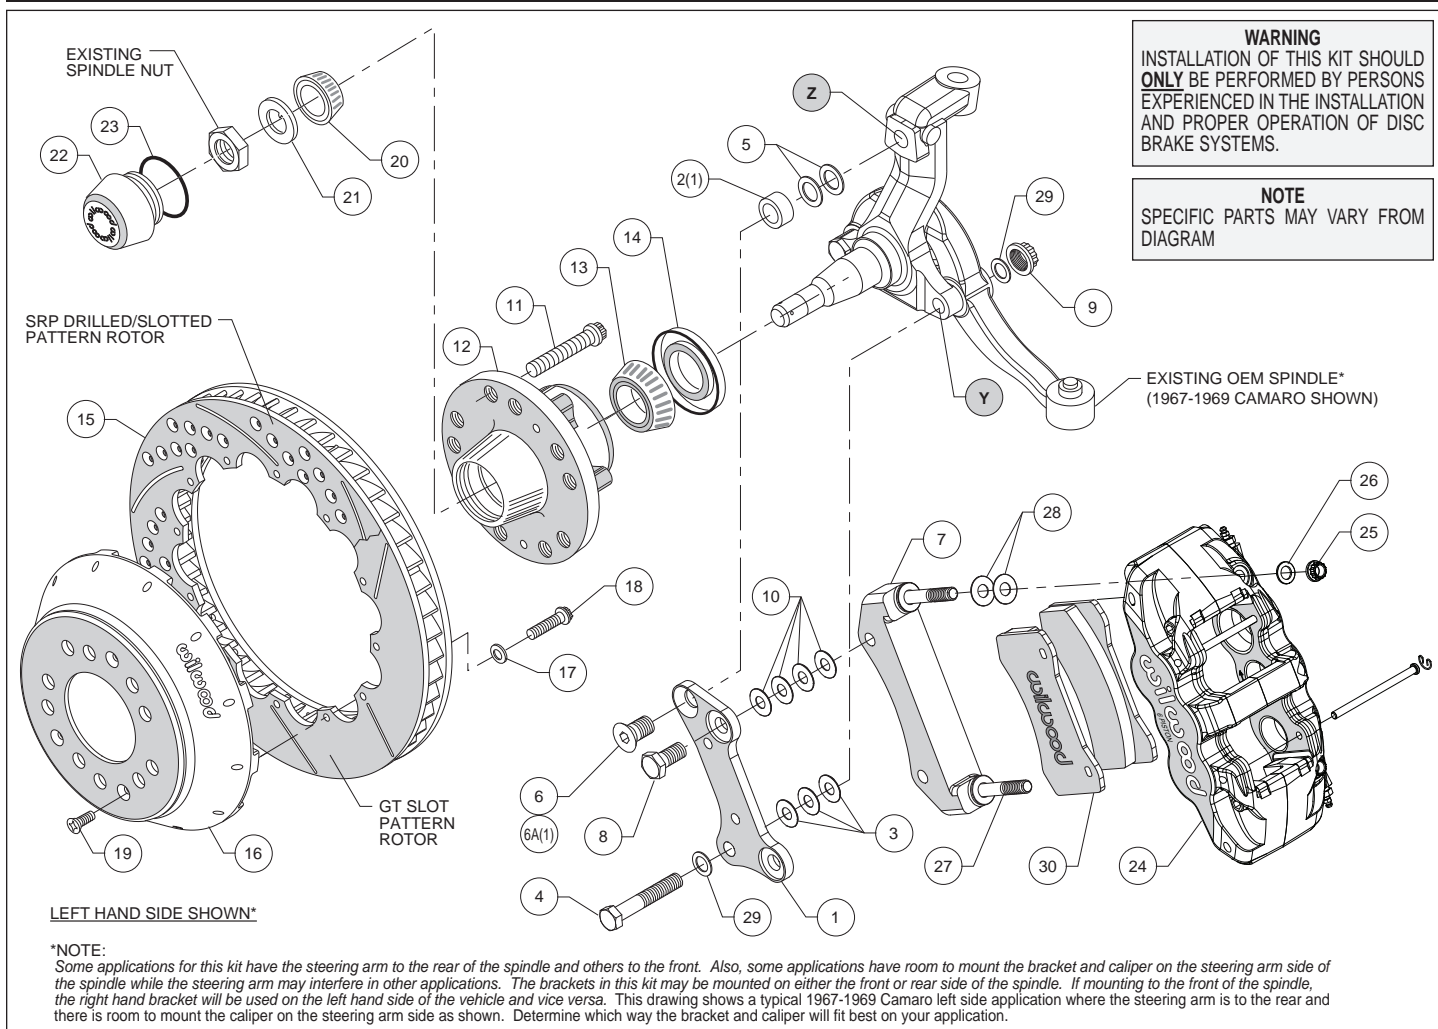
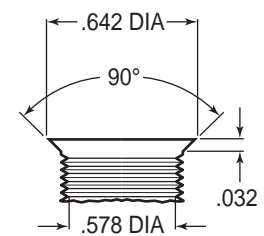
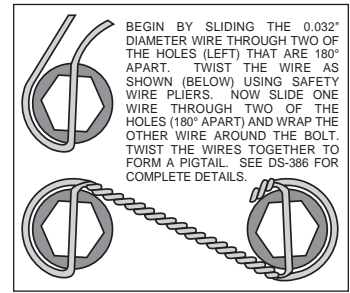

Figure 1. Typical Installation Configuration
Figure 3. Drill and Tap Detail
Figure 4. Safety Wire Diagram
Assembly Instructions (numbers in parenthesis refer to the parts list, and Figure 1 on the preceding pages):
- NOTE:** Some applications for this kit have the steering arm to the rear of the spindle and others to the front. Also, some applications have room to mount the bracket and caliper on the steering arm side of the spindle while the steering arm may interfere in other applications. The brackets in this kit may be mounted on either the front or rear side of the spindle. If mounting to the front of the spindle, the right hand bracket will be used on the left hand side of the vehicle and vice versa. Figure 1 shows a typical 1967-1969 Camaro left side application where the steering arm is to the rear and there is room to mount the caliper on the steering arm side as shown. Determine which way the bracket and caliper will fit best on your application.
- NOTE:** Some spindles in this year range may require the following modifications (reference Figure 1 and Figure 3): Top anchor pin hole (Z) must be drilled and tapped to the dimensions as outlined in Figure 3. The lower bolt hole (Y) in the spindle used to mount the new caliper bracket, and the mating steering arm hole, must be enlarged to .50" by drilling. It is recommended these modifications be performed by a qualified machinist.
- Install wheel studs (11) into the hub (12), Figure 1 and Photo 1. Torque to 77 ft-lb. **NOTE:** There are two five lug patterns in the hub (5 x 4.50 and 5 x 4.75). Ensure the correct hub stud pattern is being used to fit the wheel application.
- Pack the large inner bearing cone (13) with high temperature disc brake bearing grease (available from your local auto parts store) and install into the backside of the hub (12), Photo 2.
- Install the grease seal (14) by pressing into the backside of the hub (12), flush with the end of the hub, Photo 2.
- Orient the rotor (15) and the hat (16) as shown in Figure 1 and Photo 3. Attach rotor to hat using bolts (18) and washers (17). Using an alternating sequence, apply red *Loctite*® 271 to the threads, and torque to 155 **in-lbs**. For an added measure of security, the bolts may be safety wired using standard 0.032 inch diameter stainless steel safety wire as shown in Figure 4. Please refer to Wilwood's data sheet DS-386 for complete safety wire installation instructions.
- Disc Brake Spindle Application Only:** Follow the instructions below, but instead use bolt (6A), spacer (2), and two .050" thick washers (5) in the upper bolt hole location, Figure 1.
- Orient the flat bracket (1) as shown in Figure 1 and Photo 4, and install using bottom bolt (4), washers (29), and nut (9), Figure 1. Initially place three .032" thick shims (3) between the bracket and spindle. Install the upper bolt (6 or 6A), Photo 5. Temporarily tighten bolts. **NOTE:** *The bracket must fit squarely against the mounting surfaces on the spindle.* Inspect for interference from casting irregularities, machining ridges, burrs, etc. Temporarily install the hub and hat/rotor assembly. Check that the bracket is aligned parallel to the rotor, Photo 6. If not, adjust by adding or subtracting shims (3) on the lower bolt between the bracket and spindle, Figure 1. Once the bracket alignment is correct, remove the upper bolt (6 or 6A), apply red *Loctite*® 271 to the bolt threads, and torque to 120 ft-lb. Torque the lower lock nut to 65 ft-lb.
- The radial mount caliper bracket (7) should initially be installed with clean dry threads on the mounting bolts. Orient bracket as shown in Figure 1, and install using bolts (8). Initially place four shims (10) on each bolt between the two brackets. Temporarily tighten the mounting bolts. Later, after the caliper alignment has been checked, the mount bolts will be secured using red *Loctite*® 271.
- Pack the small outer bearing cone (20) with high temperature disc brake bearing grease and install into hub (12). Final install the hub assembly onto the spindle. Secure using spindle washer (21), and OEM spindle nut, Photo 7. Adjust bearings per OEM specifications. Install new cotter pin (not included).
- Screw dust cap (22) into hub (12), Photo 8. Friction created by the o-ring (23) on the dust cap keeps it from unscrewing. **NOTE:** *The O.D. of the existing OEM spindle washer may be larger than the I.D. of the dust cap not allowing it to seat against the hub face. Therefore, use the spindle washer (21) supplied with the kit instead of the OEM washer.*
- Final install the hat/rotor (15 and 16) onto the hub (12) taking care to align the small countersunk holes in the hat with the small threaded holes in the hub. **NOTE:** *The hat must fit flush against the hub face or excessive rotor run out may result.* Install three flat head screws (19) through the small holes in the hat (16), Photo 9, and torque to 85 in-lb.
- NOTE:** *This kit contains distinct right and left hand calipers that must be mounted in a specific direction, as described below.* Lubricate the caliper mounting studs (27) with lightweight oil. Initially place two .030" thick shims (28) on each stud between the caliper and the bracket, as shown in Figure 1 and Photo 10. Mount the caliper (24) onto the bracket (8) using lock nuts (25) and washers (26), Figure 1. Ensure that the caliper is mounted so the largest pistons are at the rotor exit end of the caliper, in relation to the direction of rotor rotation. Temporarily tighten the lock nuts and view the rotor through the top opening of the caliper. The rotor should be centered in the caliper, Photo 11. If not, adjust by adding or subtracting shims (10) between the flat bracket (1) and the radial mount bracket (8). Always use the same amount of shims on each